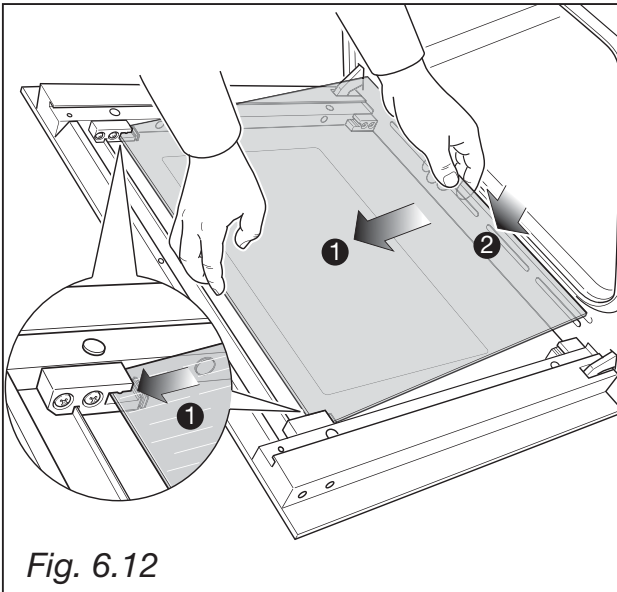

Fig. 6.12
- Gently insert the top edge of the pane into the top clamps (arrow 1 in fig. 6.12), then lower the pane and insert the bottom edge into the bottom clamps (arrow 2 in fig. 6.12); and then slide the pane into position (fig. 6.13).